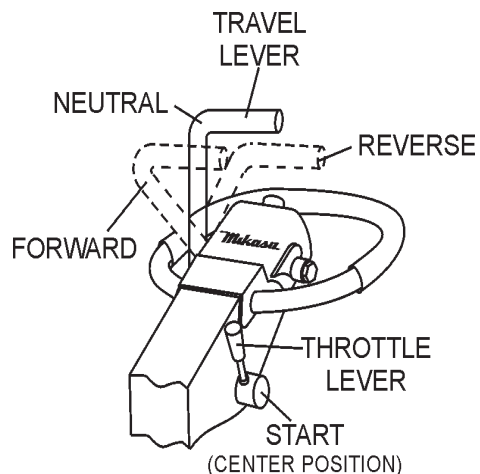

Figure 16. Travel/Throttle Lever (Start Positions)
2. Place the **throttle lever** (Figure 16) in the **START** position (center).
- Return the throttle lever to the **START** position (Figure 16). Allow the machine to cool down for 2 to 3 minutes.